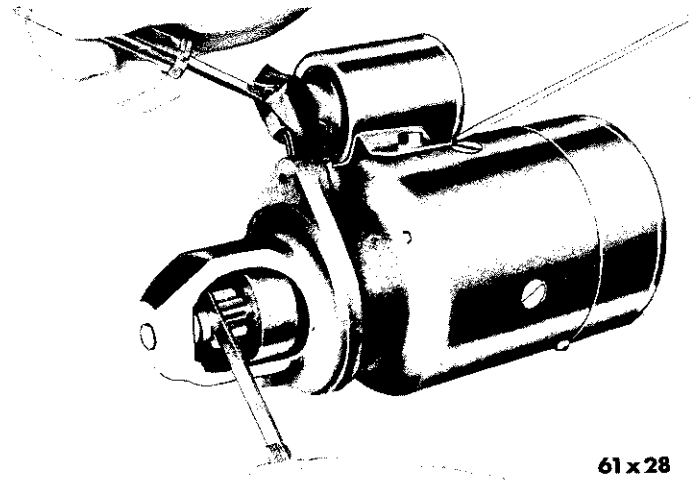

Fig. 13—Checking Starter Drive Pinion Clearance
(2) Push in on solenoid plunger link (Fig. 13) (NOT THE FORK LEVER) until plunger bottoms.
(3) Measure the clearance between the end of pinion and pin stop with plunger seated and pinion pushed toward commutator end. The clearance should be  $\frac{1}{8}$  inch. Adjust for proper clearance by loosening solenoid attaching screws and move solenoid fore and aft as required.
(4) Test starter operation under a free running test (Paragraph "Testing the Starter Motor (Bench Test)").